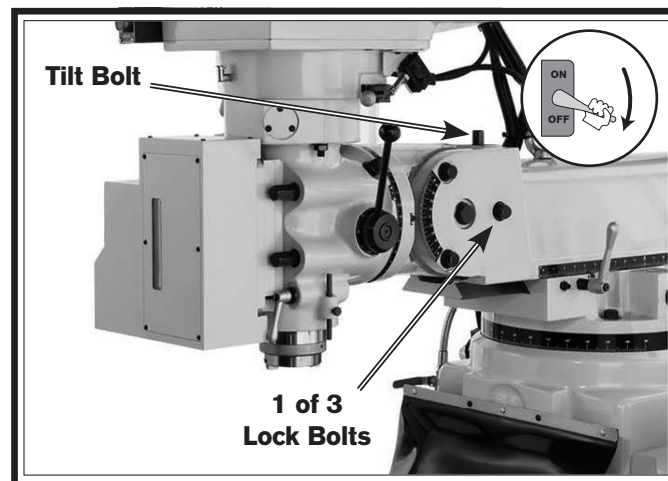

Figure 21. Head tilting controls.
2. Loosen the three tilt lock bolts on the right side of the ram adapter shown in **Figure 21**.